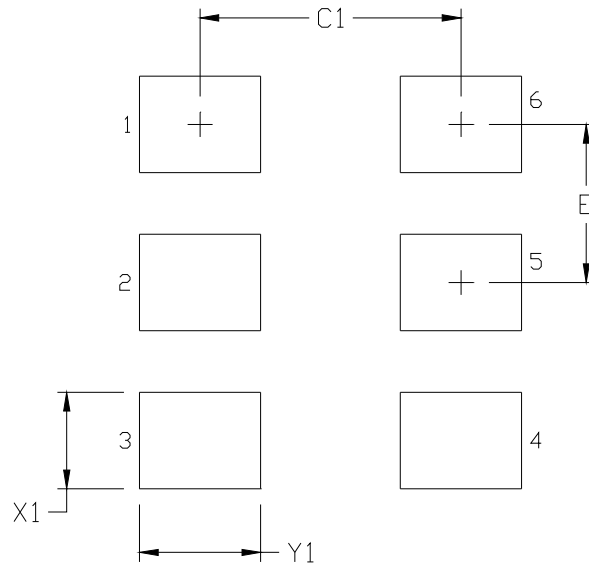

Figure 4. Si530/531 PCB Land Pattern
Figure 4 illustrates the 6-pin PCB land pattern for the Si530/531. Table 14 lists the values for the dimensions shown in the illustration.
- Revised Figure 4 and Table 14 on page 11 to reflect the recommended PCB land pattern.